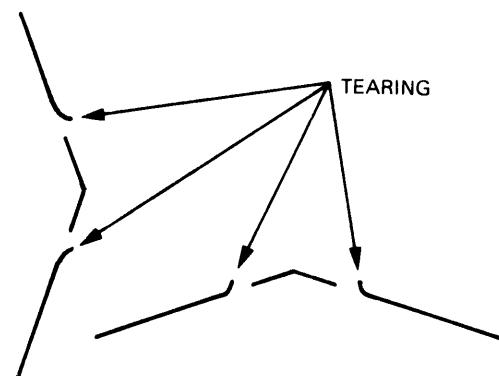

*Figure 5-8. DAC Timing Adjustment CRT display*
- The CRT will display six pointed vectors as shown in figure 5-8.
- Adjust the vectors for minimum distortion as shown in figure 5-8. Figure 5-9 shows undesired vector shapes. The adjustments (figure 5-7) interact and should be done in the following sequence.